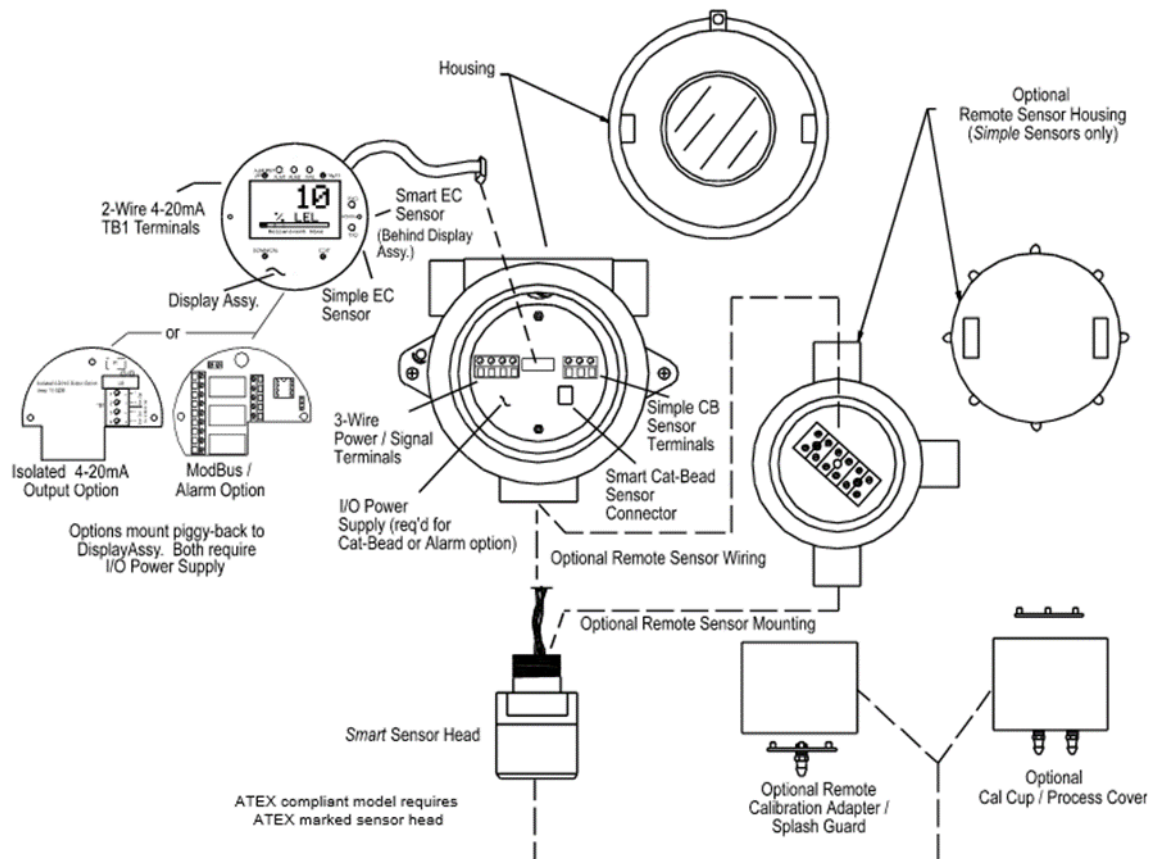
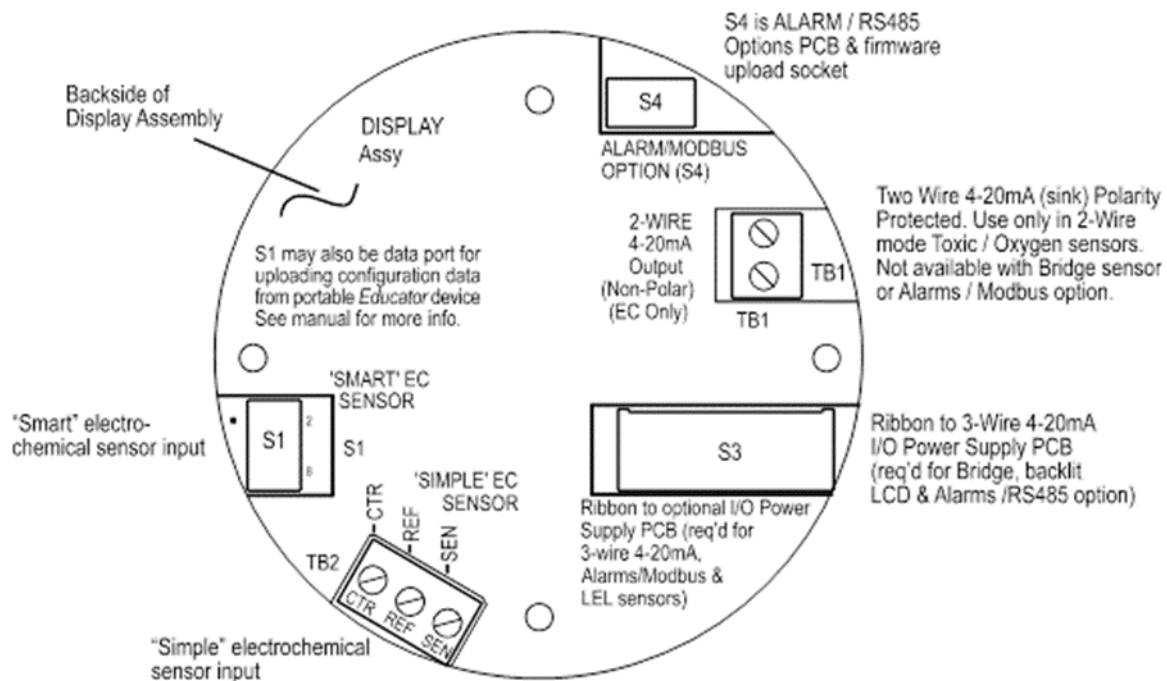
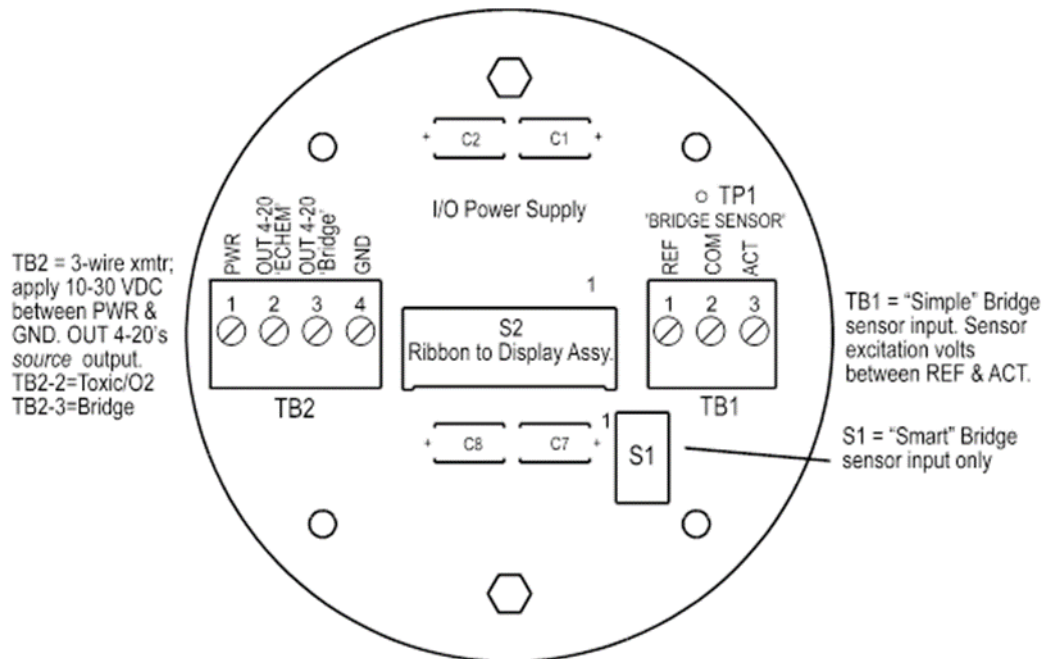
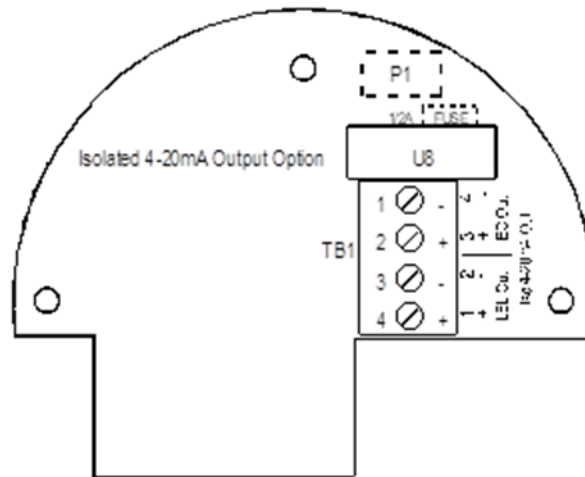

Figure 2-5 – Outline Drawing
Figure 2-6 – Display / TXP-T20 2-Wire 4-20 mA Assembly
Figure 2-8 – I/O Power Supply / 3-Wire 4-20 mA Assembly
Figure 2-11 – Isolated 4-20 mA Output Option
The modular design simplifies the installation of the TXP-T20/T30 (Figure 2-5). A top Display Assembly is mounted with captive thumbscrews and is easily removed to access field-wiring terminals. An optional Alarms/Modbus board mounts piggyback to the back of the Display Assembly. Wiring from toxic or oxygen sensors terminates at the Display Assembly along with 2-wire 4 - 20 mA signal wires. This Display Assembly is the only PC board supplied with toxic / oxygen TXP-T20/T30s not requiring relays, RS-485 Modbus or LCD backlight. The optional bottom I/O Power
The 2-wire current sinking transmitter is the easiest and most economical to install since there are only two wires. All the power needed comes from the current loop and wire sizes may be smaller. However, only very low power applications are eligible for such transmitters. The TXP-T20 Display assembly shown in Figure 2-6 consumes <2.5 mA of quiescent current. Toxic and oxygen electrochemical sensors generate their own signals and therefore require no additional current. If a 4 - 20 mA output is all that is required for toxic / oxygen measurements (no LCD backlight, alarms or RS-485) the TXP-T20 may be used in the 2-wire mode.
3-wire sourcing transmitters require an additional dedicated 24 VDC wire. The 4 - 20 mA loop current is then delivered, or sourced, from the transmitter output and the receiver device must not provide 24 VDC from its input terminal. When the TXP-T30 is equipped with the bottom I/O Power Supply board shown in Figure 2-8, the 2-wire 4-20 mA output is disabled and one of the I/O Power Supply board's 3-wire outputs must be used. TB2 terminal 2 is for ECHM toxic / oxygen 3-wire 4 - 20 mA output signals and TB2 terminal 3 is for LEL 3-wire 4 - 20 mA output signals.
Unscrew the cover on the TXP-T30 explosion-proof enclosure. Loosen the 2 thumbscrews holding the display assembly in place and remove it. A small ribbon cable is attached with sufficient length to allow access to the I/O PCB mounted in the bottom of the enclosure (Figure 2-8). Power and signal connections are to TB2 where 24 VDC, Signal and Common wires must be connected. A blocking diode protects the TXP-T30 if polarity of the power supply is reversed but it will not operate. Reassemble the TXP-T30. Follow the procedures and recommendations in the receiver and power supply manuals to complete the installation. Be sure the TXP-T30 enclosure and conduit are properly grounded. Apply power and the TXP-T30 should function. Proceed to Chapter 3.
The optional Alarms/RS-485 Modbus board supplies two level alarm relays, a FAULT relay and an RS-485 Modbus RTU slave port (Figure 2-6). This board is “piggybacked” behind the Display Assembly (Figure 2-5). Addition of this option requires 3-wire mode 4 - 20 mA operation and thereby requires the I/O Power Supply board (Figure 2-8). This is since relays and RS-485 circuits require much more power than 2-wire 4 - 20 mA loops can deliver.
The optional Isolated 4-20 mA option (Figure 2-11) provides dual 4 - 20 mA outputs that are electrically isolated from sensor inputs and the 24 VDC power source. Each 4-20 mA output shares the same common terminal and are not isolated from each other. This board is “piggybacked” behind the Display Assembly (Figure 2-5). Addition of this option requires 4-wire mode 4 - 20 mA operation and thereby requires the I/O Power Supply board (Figure 2-8).
**CAUTION:** Smart sensor heads with electrochemical toxic / oxygen sensors must connect to S1 located on the back of the Display Assembly (Figure 2-6). Smart sensor heads with catalytic bead combustible sensors must connect to S1 located on the optional I/O PCB assembly (Figure 2-8).